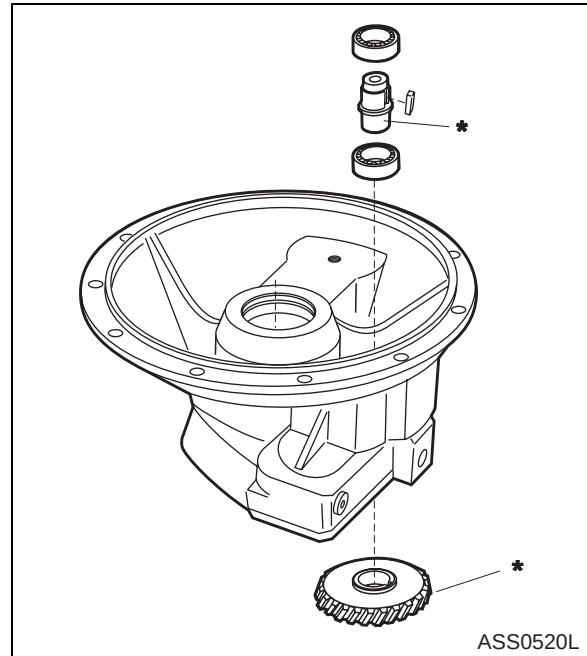

Figure 53
1. Press bolt (*, Figure 53) into gear wheel.